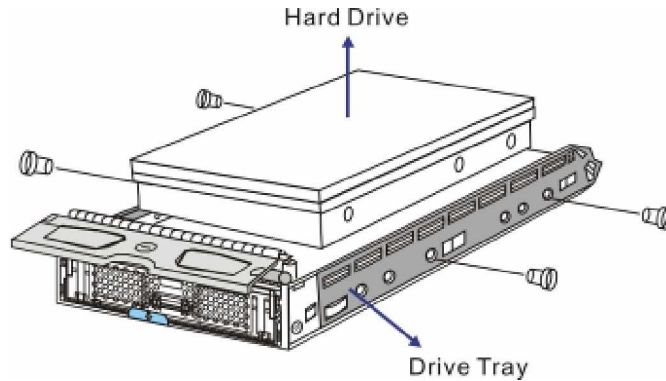

Figure 2-2: Installing a Hard Drive without MUX Kit
Step 1. Place the hard drive into the drive tray (as shown in **Figure 2-2**), making sure that the connector at the back of the drive is facing the back of the drive tray.
Step 2. Adjust the drive's location until the mounting holes in the drive canister are aligned with those on the hard drive. Secure the drive with four (4) of the supplied 6/32 flat-head screws. (See **Figure 2-2**)